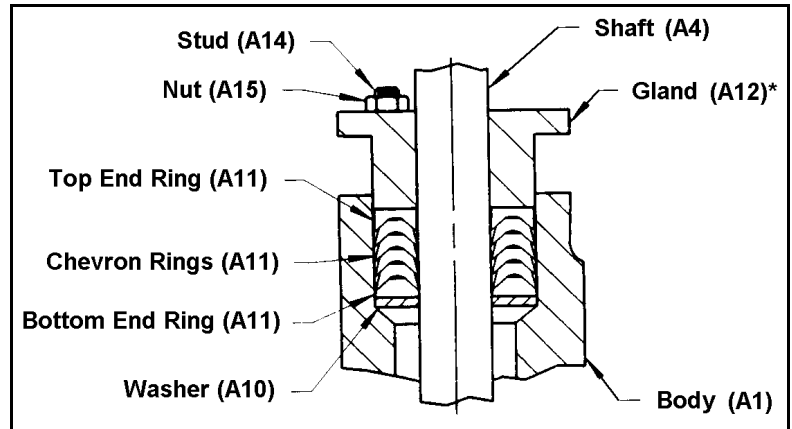

Figure 3—Packing Option: TC
- Place the packing in the body, one ring at a time, in the configuration shown in Figure 3. Do not lubricate.